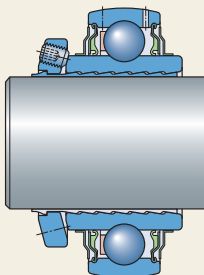

Fig. 7
- with an adapter sleeve (fig. 7)